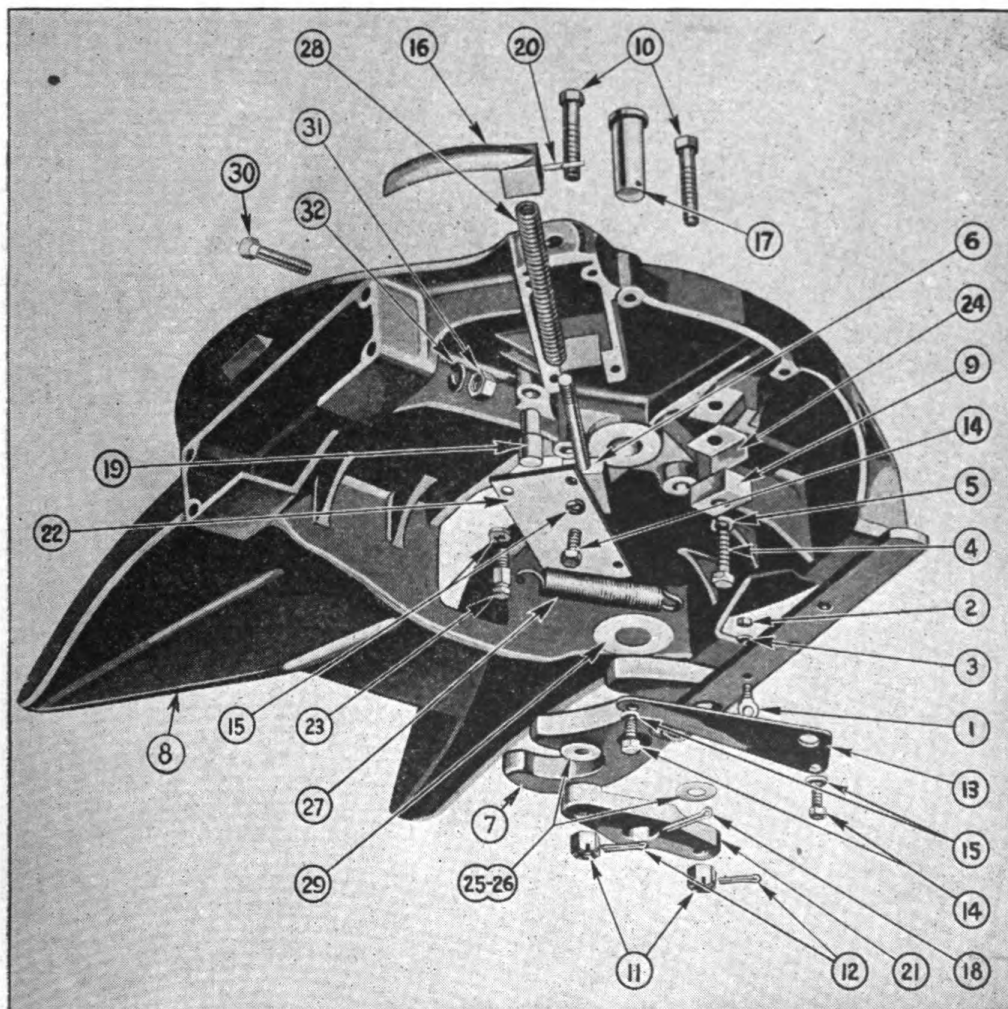

FIGURE 49. COUPLER—EXPLODED—DOLLY.
4. **TESTING AND CORRECTING PLAY IN HOOK** (Fig. 49).—
b. If the hook pin (17) becomes worn, the coupler will develop an excessive "slap" and lost motion. The following repairs should then be made:
(c) *Installation of hook lock handle* (Fig. 49).—1. When performing this operation disconnect converter gear from trailer.